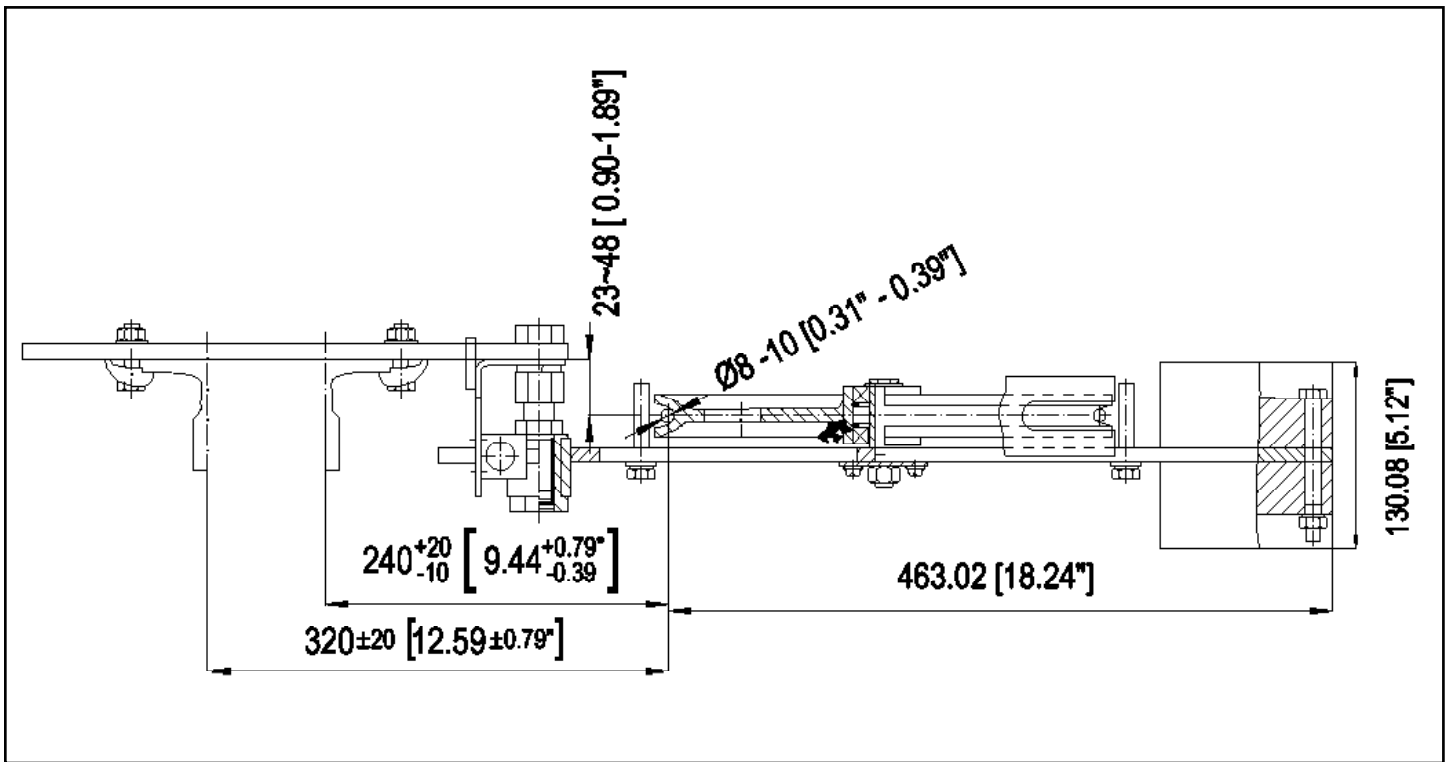

Figure 9
6. To adjust the position of the governor rope center line relative to the base surface of the rail within the 23-48 mm (0.90-1.89") range, loosen Nut 2. (*see figure 9*). Grease lightly the outside surface of the threaded sleeve.